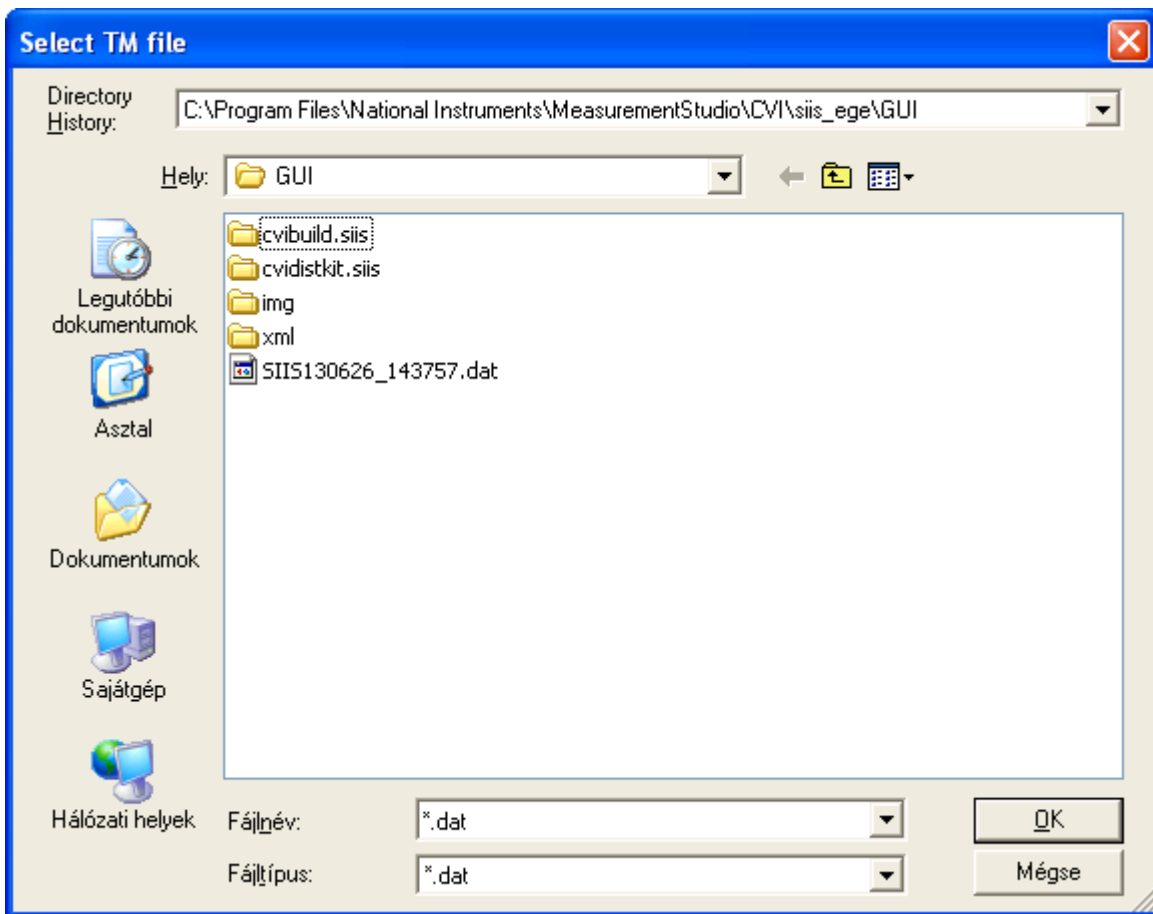

Figure 3 – file selection display
- The “TM” shortcut below the “TM File” activates the “Read TM File” menu item as well. A file selection window is displayed as shown on Figure 3. After selection with double-click on the file name or pressing the OK button the “Read TM options” window appears. See Figure 2.
The “Save TM File” menu item activates the recording of telemetry data in file. Pressing the “Save TM” button on left side below the white display area does the same. The file name is generated automatically (“SIIS” + two digit of year, month, day, hour, minute, second + “.dat”). See also Figure 3.